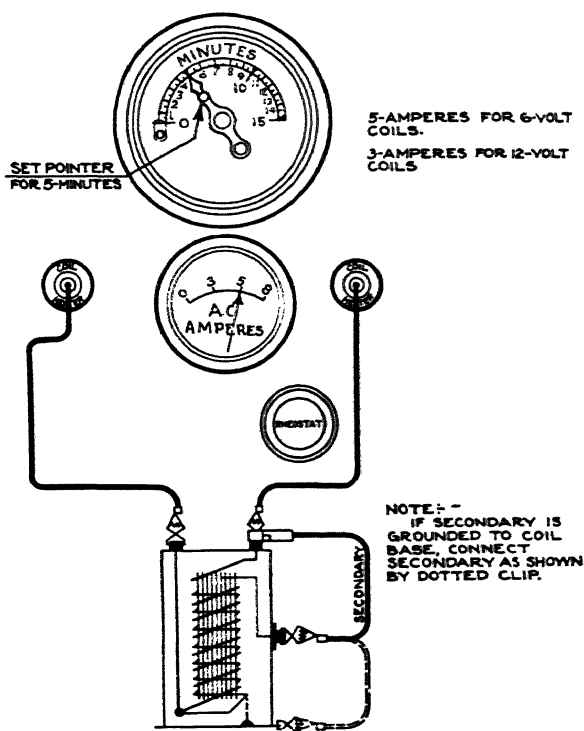

Fig. 17. Set-Up for Heating Coil
**Heating Ignition Coil.** Disconnect both primary wires from the ignition coil. Connect the test leads to terminals on the test panel lead marked "coil heater," Fig. 17, and to primary or low tension terminals of coil. Close the time switch by moving the lever to the right as far as it will go. This sets the switch for five (5) minutes. Set rheostat for five (5) amperes A.C. for 6-volt coils; three (3) amperes
or more. To adjust rheostat, Fig. 17, for above ampere flow, turn rheostat knob and observe ammeter which is located at top center of panel. When time switch opens and bell rings the coil is ready for test.